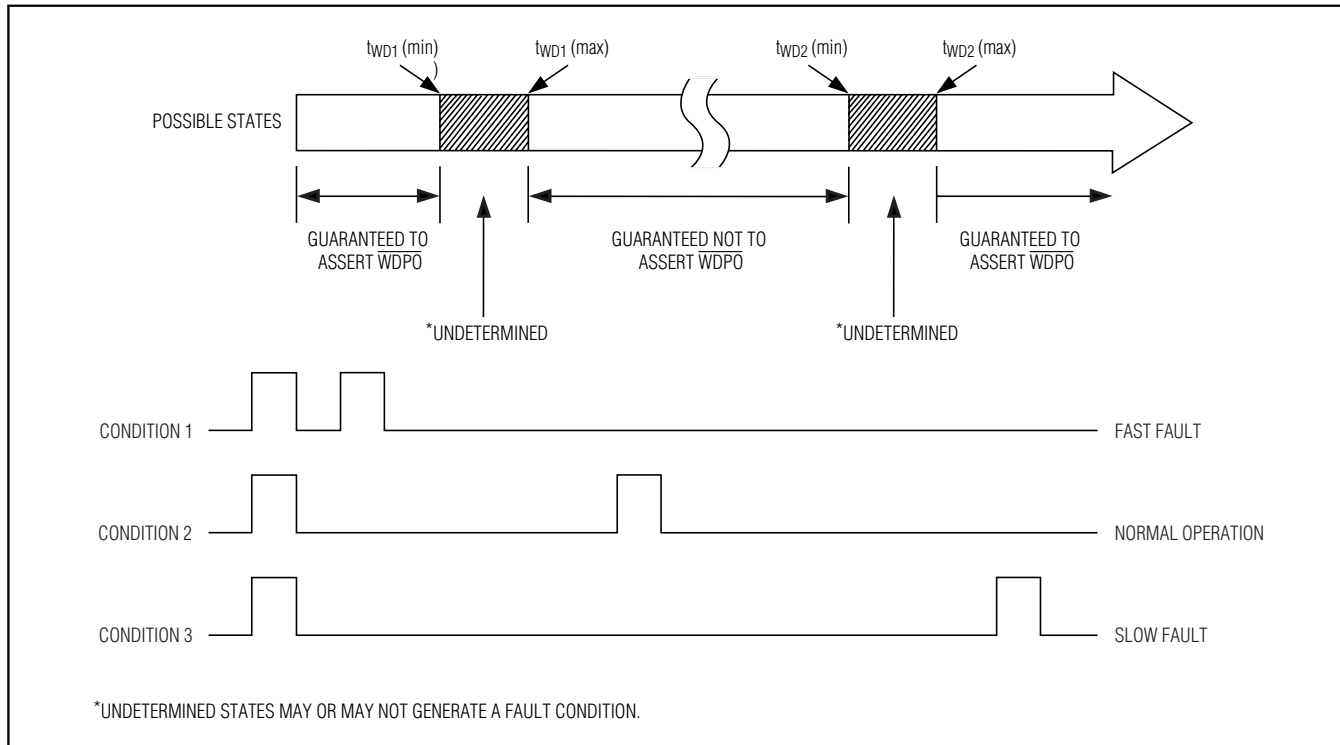
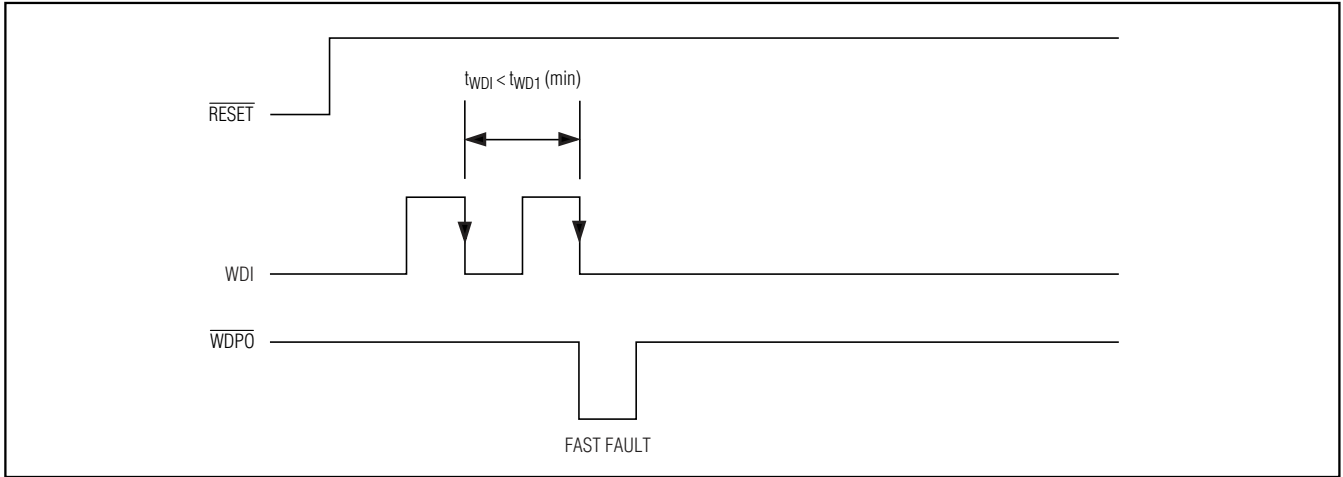
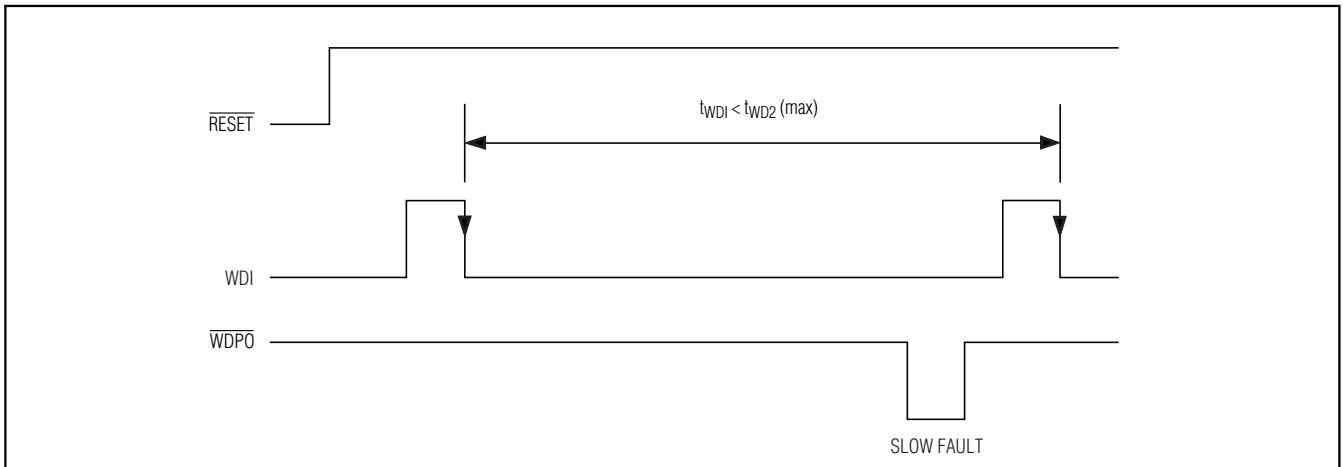
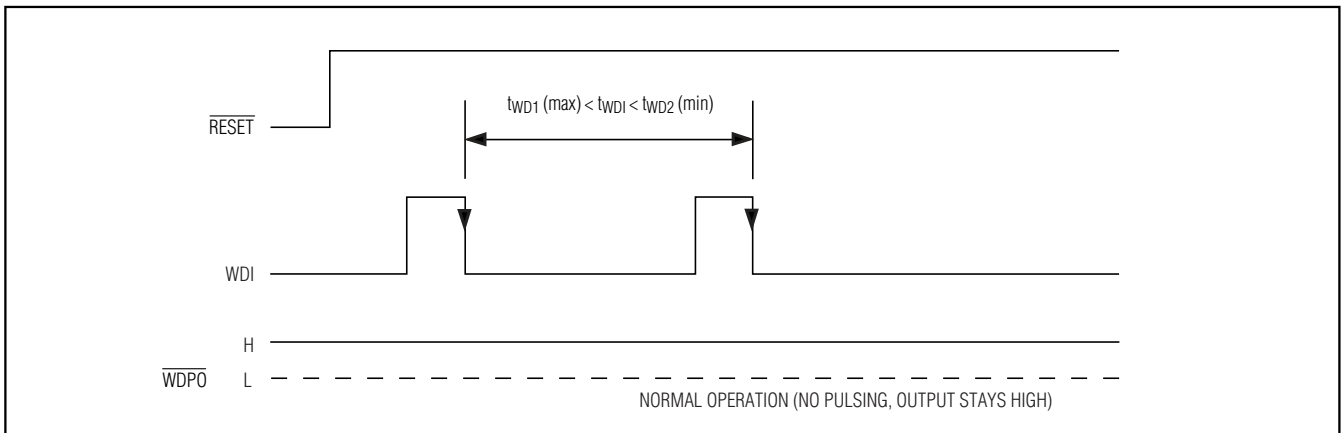

Figure 1. Detailed Watchdog Input Timing Relationship
Figure 2. Fast Fault Timing
Figure 3. Slow Fault Timing
Figure 4. Normal Operation, WDPO Not Asserted
*See Figure 1 for operation.
The MAX6323/MAX6324 μ P supervisory circuits maintain system integrity by alerting the μ P to fault conditions. In addition to a standard V_{CC} monitor (for power-on reset, brownout detect, and power-down reset), the devices include a sophisticated watchdog timer that detects when the processor is running outside an expected window of operation for a specific application. The watchdog signals a fault when the input pulses arrive too early (faster than the selected t_{WD1} timeout period) or too late (slower than the selected t_{WD2} timeout period) (Figure 1). Incorrect timing can lead to poor or dangerous system performance in tightly controlled operating environments. Incorrect timing could be the result of improper μ P clocking or code execution errors. If a timing error occurs, the MAX6323/MAX6324 issue a watchdog pulse output, independent from the reset output, indicating that system maintenance may be required.
other (faster than t_{WD1}) (Figure 2) or falling edges that are too far apart (slower than t_{WD2}) (Figure 3), $WDPO$ is pulsed low. Normal watchdog operation is displayed in Figure 4 ($WDPO$ is not asserted). The internal watchdog timer is cleared when a WDI falling edge is detected within the valid watchdog window or when the device's $RESET$ or $WDPO$ outputs are deasserted. All WDI input pulses are ignored while either $RESET$ or $WDPO$ is asserted. Figure 1 identifies the input timing regions where $WDPO$ fault outputs will be observed with respect to t_{WD1} and t_{WD2} . After $RESET$ or $WDPO$ deasserts, the first WDI falling edge is ignored for the fast fault condition (Figure 2).